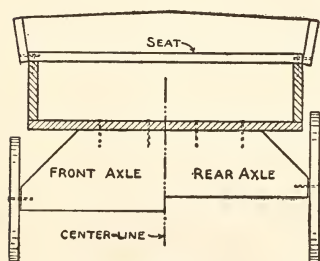

FIG. 286. — Cross-Section of the Express-Wagon.
**The Express-Wagon** shown in Fig. 284 is made out of a long flat box. Cut down the sides at the front and construct a seat on top of the sides as shown in Fig. 286. Cut the front wheels about  $2\frac{1}{4}$  inches in diameter and the rear wheels about  $2\frac{3}{4}$  inches in diameter. If you haven't a compass with which to describe the circles, you can mark
out the wheels with cups or glass tumblers. Cut the wooden axles as shown in Fig. 286, making the front axle — for the smaller wheels — deeper than the rear one, then fasten them to the wagon and nail the wheels to their ends. Drive a tack into the front of the wagon-box and tie a cord to it,